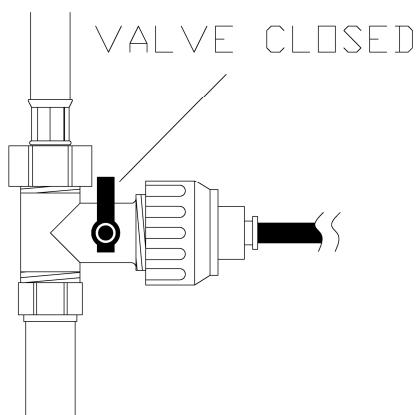
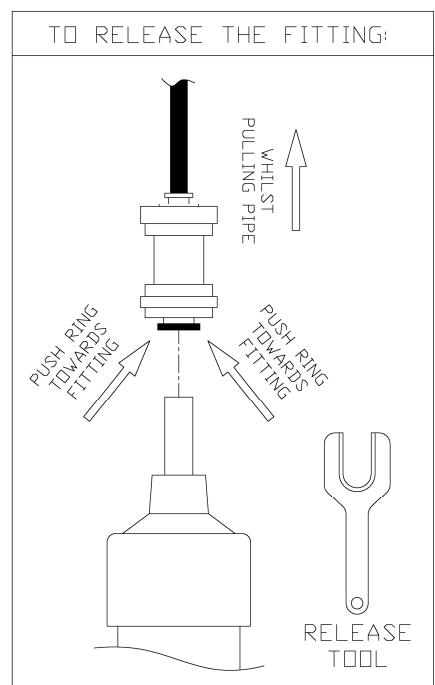

Fig 1.
Fig 2.
2. Turn the lever on the isolator (A) to the closed position (fig 1.) Allow the mixertap to run until no water flows though it.
3. Unclip the filter unit (C) from its bracket (D) under the sink.
4. Remove fittings (B&E) from the filter (C). To do this push the small ring around the fitting towards the fitting whilst pulling the fitting away from the filter (Fig.2). A black release 'spanner' tool was included with your tap to remove fittings (B&E) more easily but they can also be removed by hand.